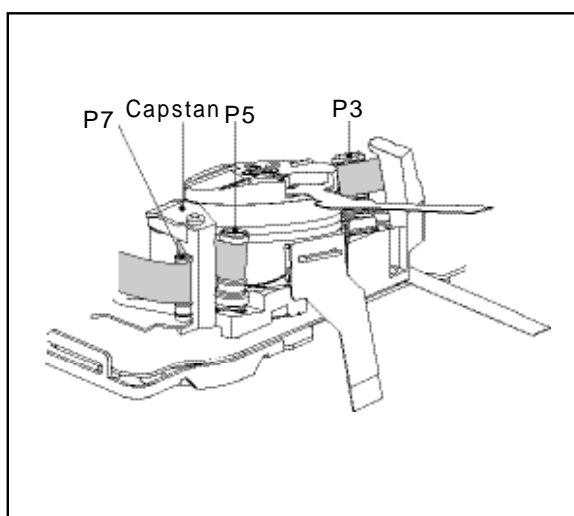

Fig 2-10
1. Play back the alignment tape, and confirm that the tape is not twisted between the Guide Roller T and Capstan. (If the tape is twisted, turn P7, Fig 2-10)